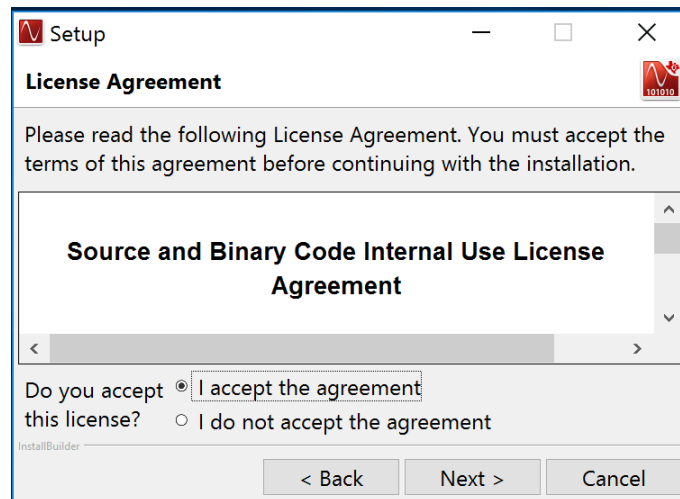

Figure 24. HSDC Pro Install (TI License Agreement)
4. Read the License Agreement from Texas Instruments and select *I accept the agreement*, then press the *Next* button as shown in Figure 24.